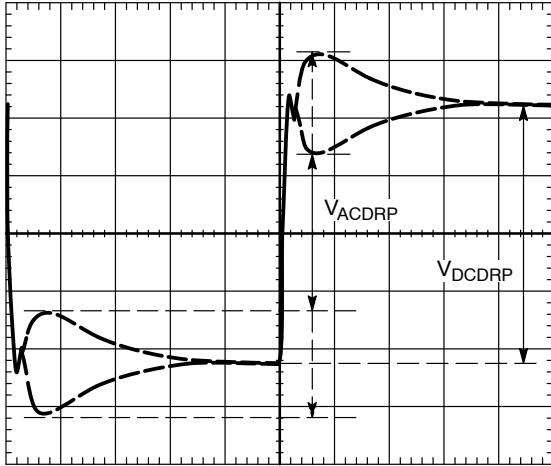

Figure 14. AC Load Line Waveform
14. Measure the output waveform (use dc offset on scope to see the waveform). Try to use a vertical scale of 100 mV/div or finer. This waveform should look similar to Figure 14.
15. Use the horizontal cursors to measure V_{ACDRP} and V_{DCDRP} as shown in Figure 14. Do not measure the undershoot or overshoot that happens immediately after this step.